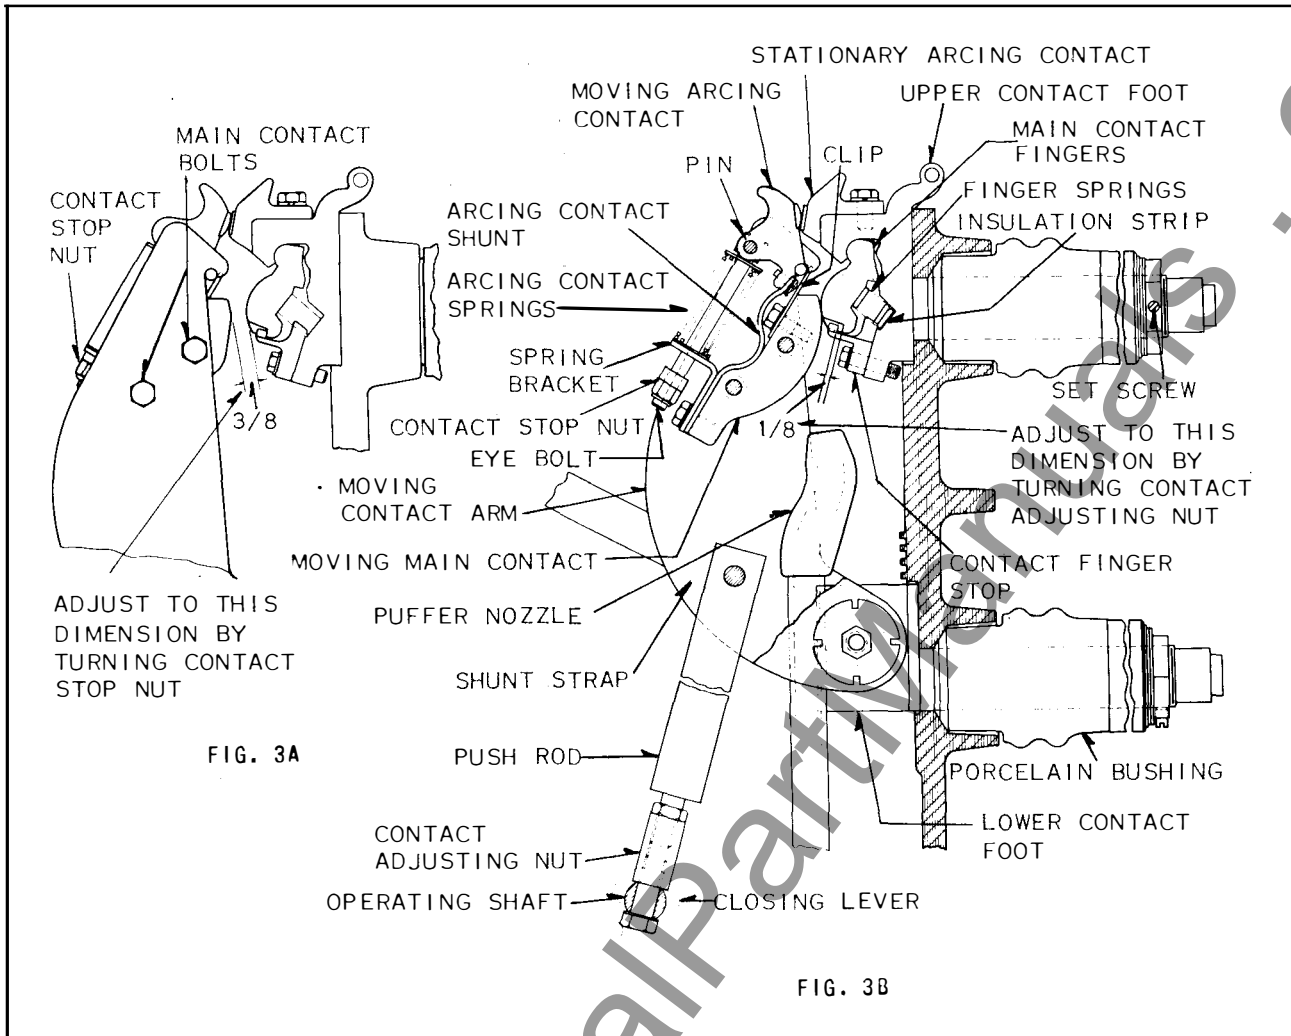

FIG. 3. Pole Unit Assembly
2. With the breaker in the closed position, check the contacts to make certain that the adjustments have not been disturbed. The main contact over-travel should not be less than the 1/8 inch as illustrated in Figure 3B. Trip the breaker, and close it again by hand until the arcing contacts just touch. The main contact surfaces should be separated by 3/8 plus or minus 1/32 as illustrated in Figure 3A. If adjustments are required, they should be made as described in Figure 3.
The general arrangement of the breaker parts is shown in Figures 3 and 4. The solenoid coil is arranged to exert an upward force on the mechanically trip-free linkage. This linkage, in turn, exerts an upward force on the pole unit operating rods which move to close the breaker. The moving contact arms contain the main contacts and arcing contacts. On opening, main contacts first separate
After the contacts have been worn and dressed off as above, contact adjustments should be checked. (See Figure 3.) Some re-adjusting will involve changing position of the rods at the lower end of the insulating operating rod so as to lengthen or shorten the rod. Some mechanics may prefer to do this adjusting on the operating rod with the breaker in the closed position. If this is done the danger in this practice should be understood and safety precautions taken.
Ordinarily the only adjustment required will be the compensation for the normal wear of the arcing tips. Each pull rod is fastened to a common cross bar attached to the mechanism through a half inch bolt which can be loosened to either lengthen or shorten the length of the pull rod. When the breaker is closed manually it is important that the stationary contacts have the adjustment clearance as indicated on Figure 3 and the pull rod lengths should be adjusted to obtain these dimensions. The compensation for the adjustment of the arcing contacts can be realized by simply retarding the arcing tip adjustment nut until the contact separation is obtained as illustrated in Figure 3. The bolts and nuts should then be securely locked and re-checked again for proper contact sequence and adjustment.